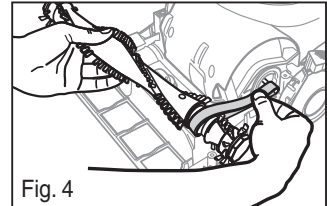

Fig. 4
- Pull out wand (Fig. 4).
- Pull out air path selector knob (Fig. 4).
- Remove brush roll and belt. Thread new belt around motor shaft and brush roll (Fig. 4).